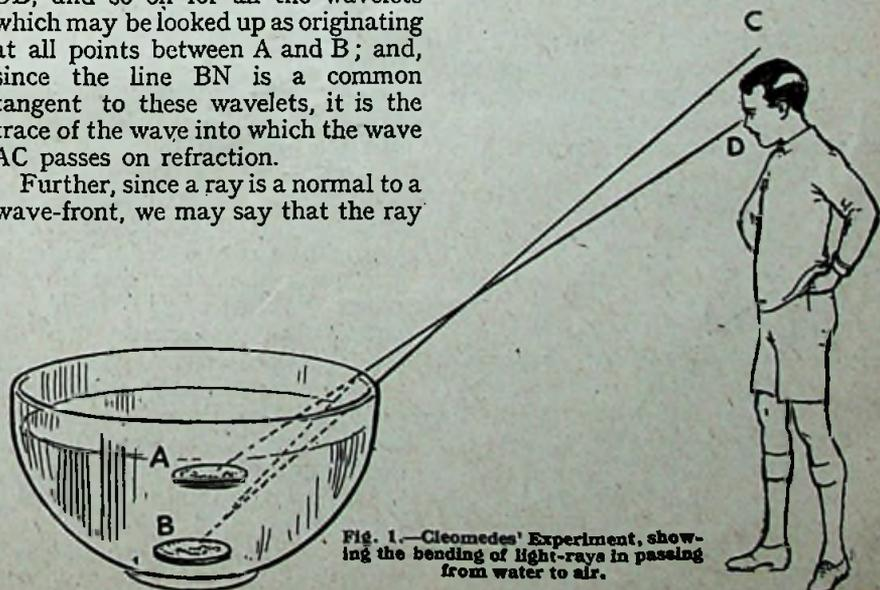

Fig. 1.—Cleomedes' Experiment, showing the bending of light-rays in passing from water to air.
**P**RIMITIVE man must have known that when a straight stick is thrust obliquely into a pool the stick appears to be broken or bent where it enters the water. A charming experiment, which must have delighted generations of children, depends upon this fact. It was first described nearly 2,000 years ago by Cleomedes, the Greek astronomer. It is shown in Figure 1. A penny or other small heavy object (A) is placed at the bottom of an empty bowl. The young experimenter then moves away until the penny is quite hidden from view by the edge of the bowl. In this position, of course, any ray AC, passing from the coin over the edge of the bowl must pass above the eye. Let someone now, whilst the experimenter stands perfectly still, fill up the bowl from a jug of water. As the water level rises the penny will be seen rising into view from behind the edge of the bowl until, when the bowl is full, the penny will be seen an inch or more above its original position along the line OB.
Figure 8 is the receiving instrument, which has a clock movement similar to that of Figure 7, with the exception of the metallic point E, in place of the selenium point, disc or ring (Figure 7) at B. Figure 9 is an enlarged view of clockwork and machinery shown in Figures 1 and 2.